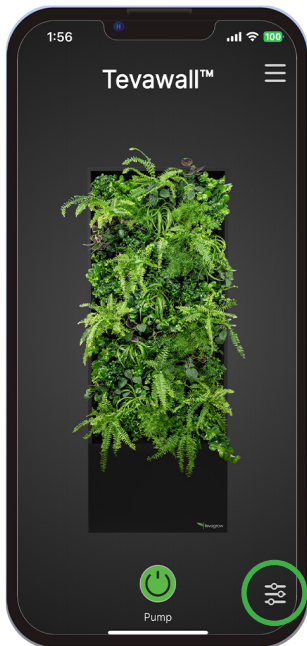

Figure 7.1
1. Select your product settings icon (See Figure 7.1)